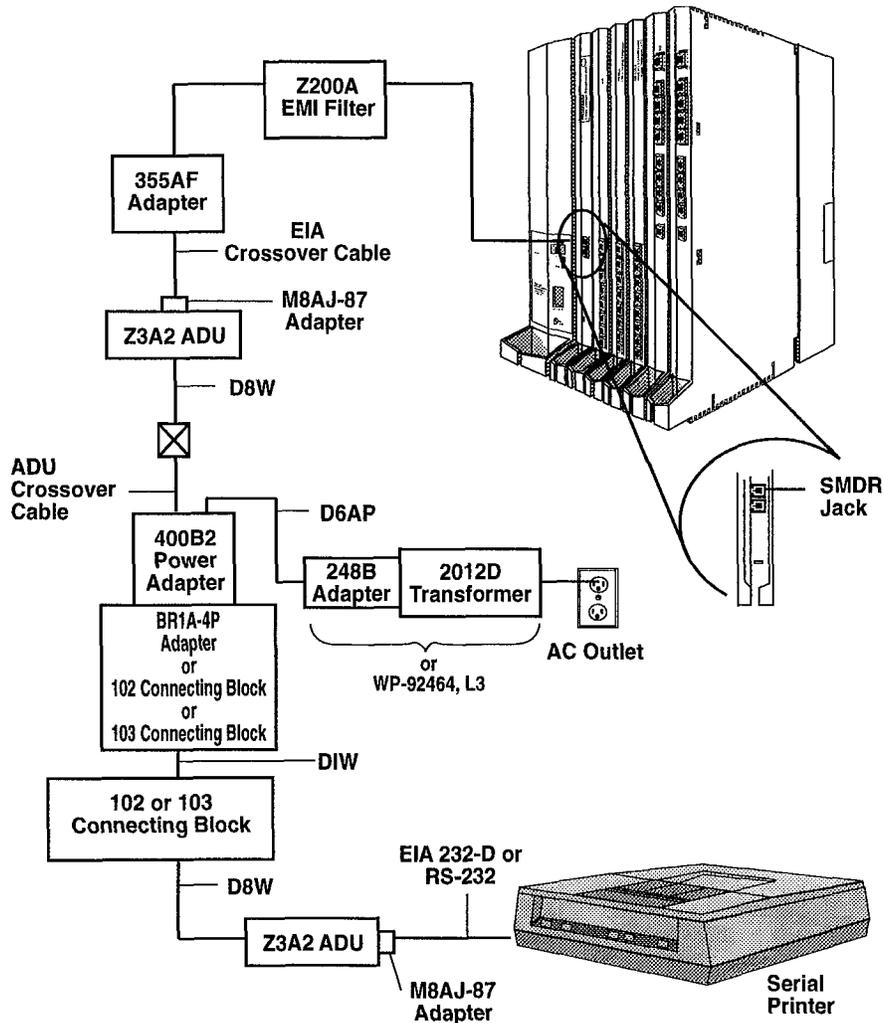

Figure 3-18. Connecting a Printer 15.24 m (50 Feet) or More from Control Unit
**Procedure (see Figure 3-18)**